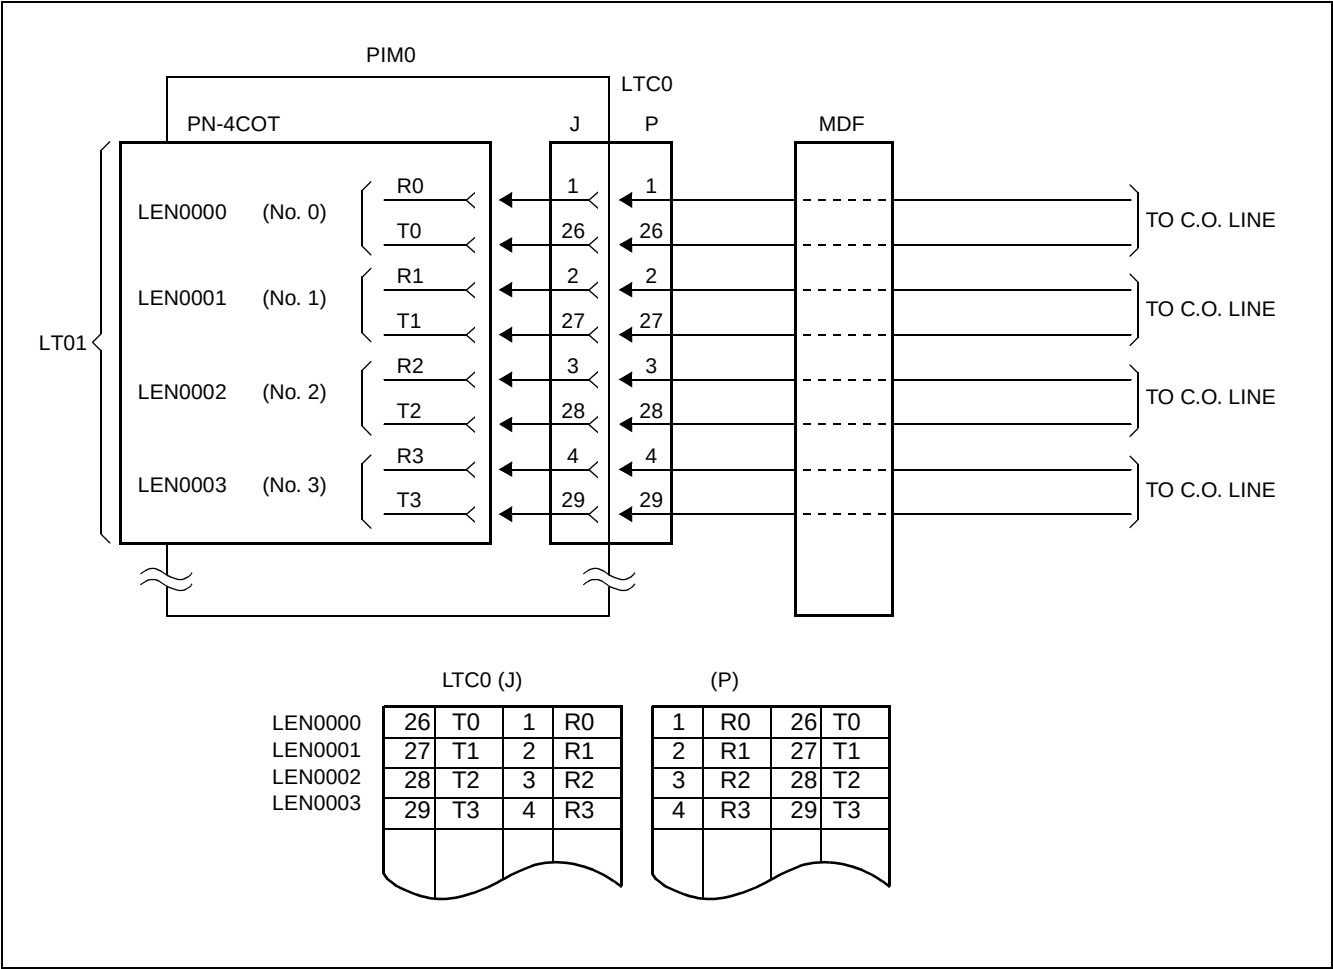

Figure 007-4 MDF Cross Connection for 4 Line C.O. Trunk Card (PN-4COT)
- (1) C.O. Trunk
- (a) 4 Line C.O. Trunk (PN-4COT) (see Figure 007-4)